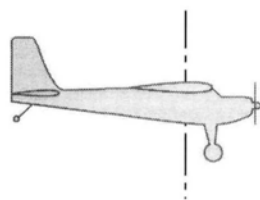
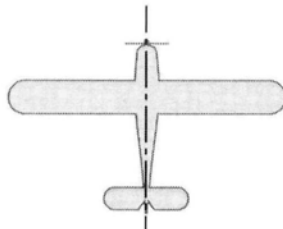

Figure 1A.
Figure 1B.
Change the horse into a plane, and the pole runs vertically through its center of gravity (CG); see **Figure 1A**. The plane will pivot around this pole, which is the vertical axis. The movement around the vertical axis is known as yaw. When the rudder is moved to the right, the decreased camber on the left side of the vertical tail creates a lower pressure while the increased camber on the right side creates a higher pressure.
Figure 1A. Location of the vertical axis. The plane pivots around this axis, and that's known as "yaw." **Figure 1B.** The longitudinal axis extends from the nose to the tail.
when the rudder is moved to the left. The rudder can also induce roll around the longitudinal axis; see **Figure 1B** (but more about that later). When you set up your plane's rudder deflection, make sure that you have a lot of throw and that it's equal